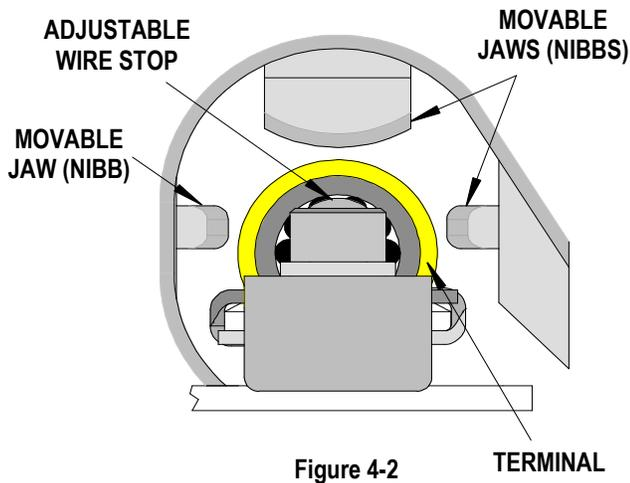

Figure 4-2
3. Position the terminal in the locator as shown in Figure 4-2 and 4-3. Insert the properly stripped wire into the terminal barrel. The wire ends should butt up against the wire stop of the locator.